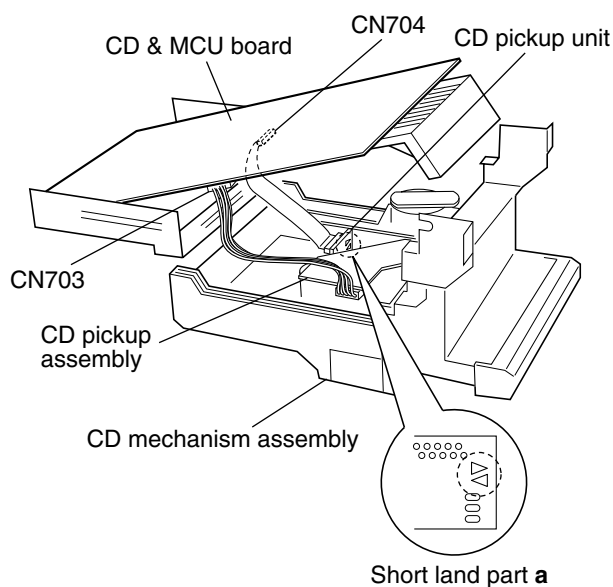

Fig.2
4. Lift the CD & MCU board and attach solder to the short land part **a** on the CD pickup assembly. (See Fig.2.)
5. Disconnect the card wire from the connector CN704 on the CD & MCU board, and take out the CD & MCU board. (See Fig.2.)
[Cautions] • Be sure to solder the short land part **a** on the CD pickup unit before disconnecting the card wire from the CD pickup unit. (See Fig. 2.) If the card wire is disconnected without attaching solder, the CD pickup may be destroyed by static electricity.